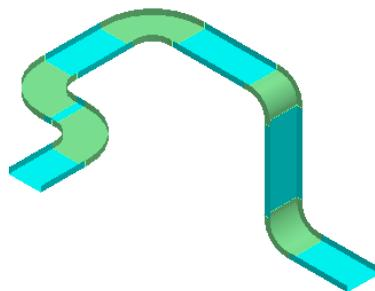

Figure 40: Routed Second Cableway
23. Click in the graphic view to place a **5 ft** cableway tray going south. Right-click to terminate the **Route Cableway** command. The routed cableway should resemble Figure 40.